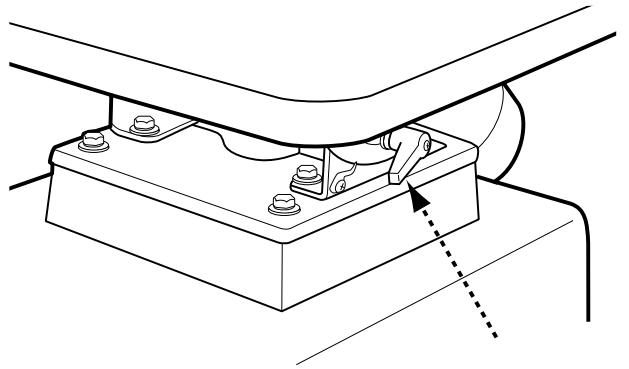

FIGURE 10
- Loosen both table tilt locking levers, see Figure 10.